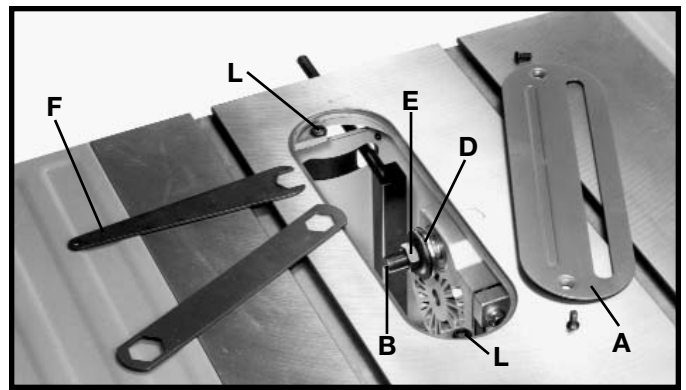
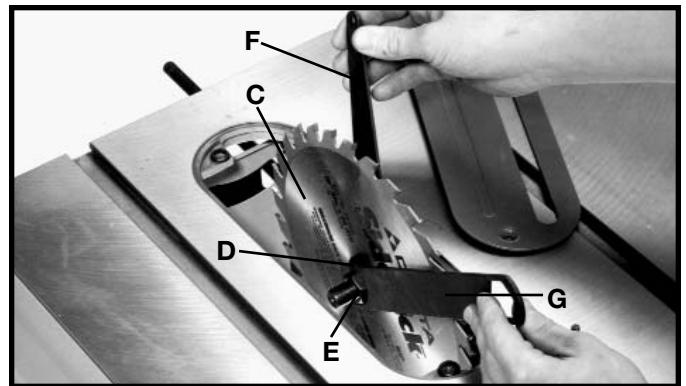

Fig. 11
Fig. 12
1. Remove the two table insert screws and remove the table insert (A) Fig. 11. **IMPORTANT:** Be careful not to lose two rubber washers (L) located under table insert (A).
2. Raise the saw blade arbor (B) Fig. 11, to its maximum height by turning the blade raising handwheel counterclockwise, remove the arbor nut (E) (turn clockwise), and outer flange (D) from the saw arbor.
3. Assemble the saw blade (C) to the saw arbor. Make sure the teeth of the blade point down at the front of the table, as shown in Fig. 12. Place the flange (D) and arbor nut (E) (turn counterclockwise) on the saw arbor and tighten arbor nut (E) as far as possible by hand. Make sure that the saw blade is against the inner blade flange.
4. Place the wrench (F) Fig. 11, on the flats on the saw arbor to keep the arbor from turning and tighten arbor nut (E) (turn counterclockwise) using wrench (G) Fig. 12.